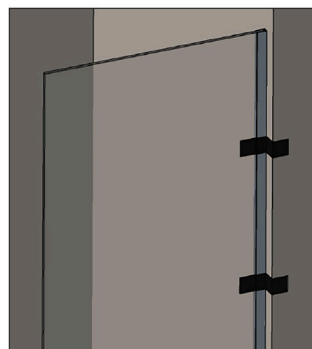
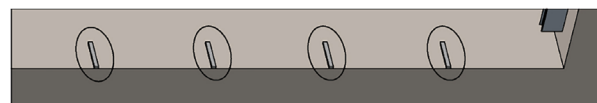

FIGURE 11A
FIGURE 11B
Place Glass Blocks (Q) on base to protect edge of glass panel while adjusting for size (See Figure 11B). Set Glass Panel (P) on blocks and gently slide into Wall Channel (C). Make sure panel is as far in to the Wall Channel (C) as possible. **THE PURPOSE OF THIS STEP IS FOR SPACING ONLY. PANEL WILL BE REMOVED AGAIN, SO DO NOT PERMANENTLY ATTACH.** Using several pieces of tape, inside and outside, secure Glass Panel (P) to wall for the time being. (See Figure 11A)